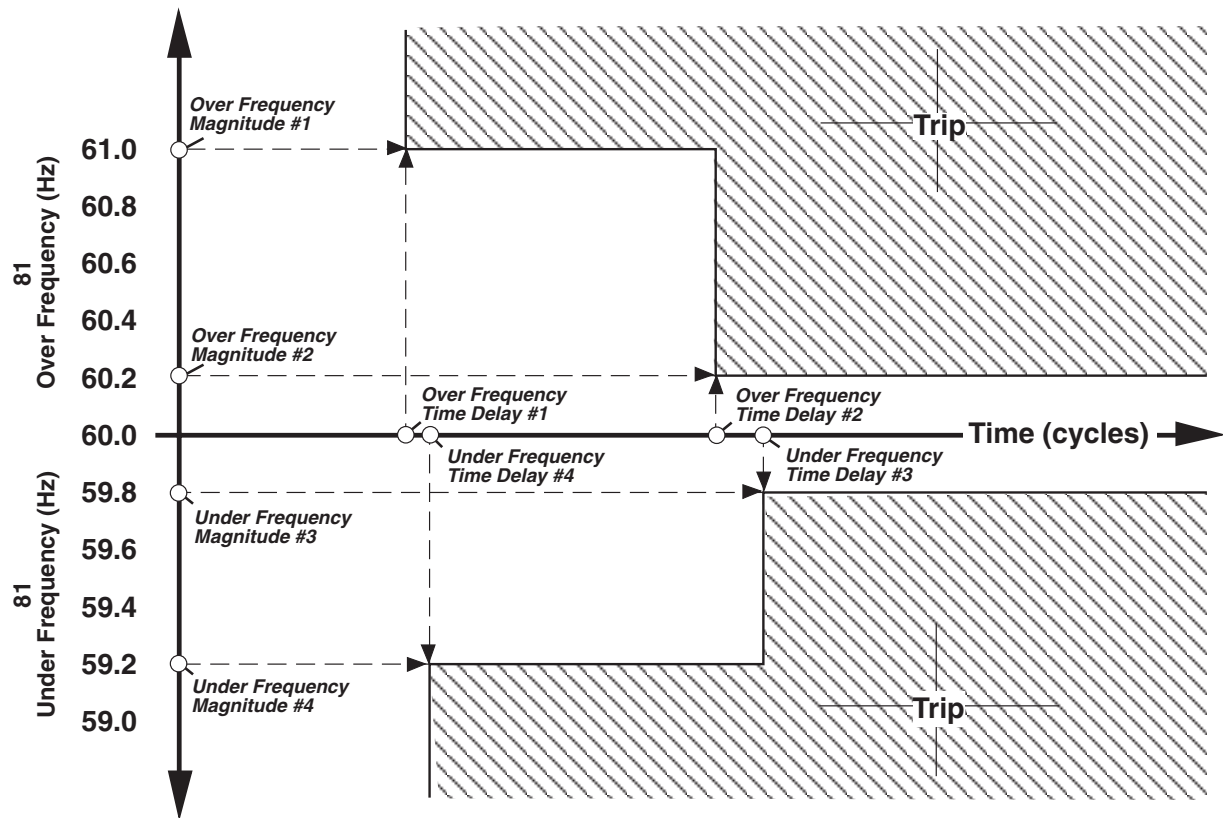

Figure 3-52 Example of Over/Under Frequency (81) Trip Characteristics
Sample settings of the 81 Function are shown in Figure 3-52, Example of Over/Under Frequency (81) Trip Characteristics. The frequency functions are automatically disabled when the input voltage (positive sequence) is less than about 5 V.
These magnitude and time settings describe a curve (as shown in Figure 3-52) which is to be coordinated with the capability curves of the turbine and generator as well as the system underfrequency load-shedding program. These capabilities are given by a description of areas of prohibited operation, restricted time operation, and continuous allowable operation.